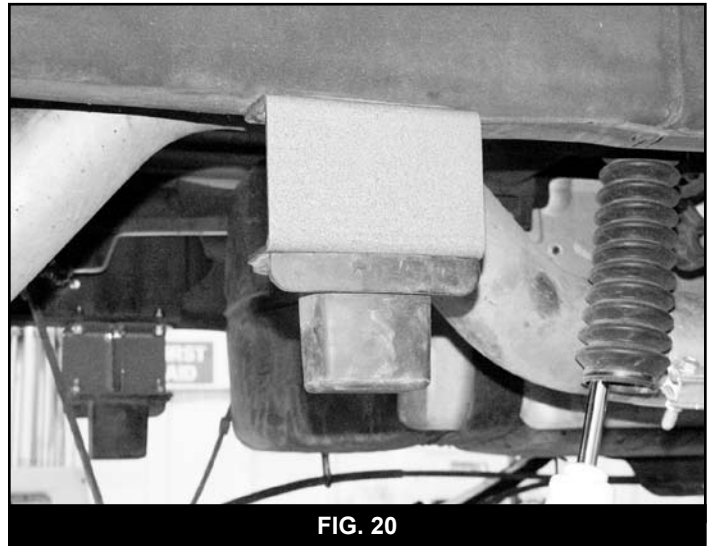

FIG. 20
82. Install the OE bump stop to the relocation brackets with the OE nuts and torque to 30 ft-lbs. Note: The bump stops have a locating tab that will fit into the middle hole in the relocation bracket (Fig 20).